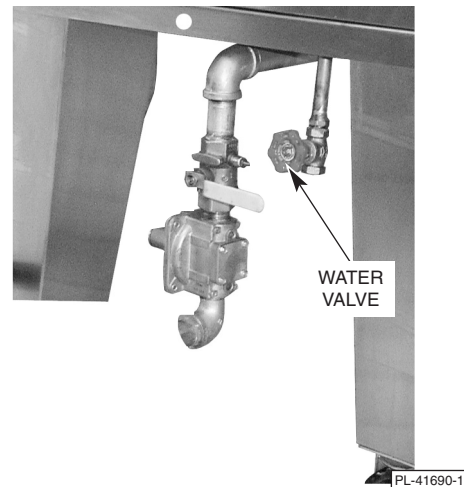

Fig. 35
- For systems plumbed to water line, turn water valve knob on until grease is removed from the drip pan, then turn water valve off (Fig. 35).